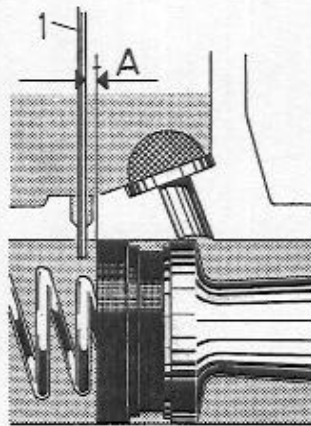

Fig. 52. Checking the equalizing hole.
Check that the equalizing hole is clear by inserting a piece of 0.5 mm (25 gauge) wire through the hole, see Fig. 52. It should then be possible to press the plunger in approx. 0.5 mm (0.02") before the wire is gripped. Take care not to damage the packing. Also check that there is clearance for the push rod (5).
5. Fit the rubber cover (6).